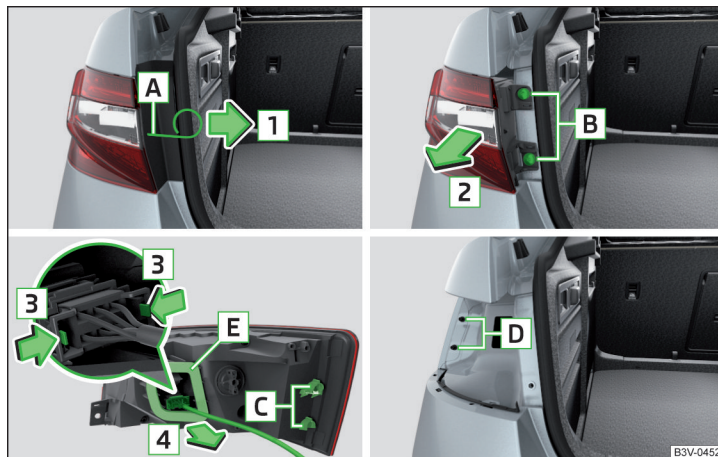

Fig. 364 Removing light / pulling out connector
- Insert the clamps for removing the full wheel trims into opening **A** » Fig. 364.
- › Slide the plug in the opposite direction of the arrow **4** » Fig. 364 into the light. The locks on the plug must be inserted securely.
- Ensure that when re-inserting the light the wiring harness between the body and the light is not jammed and the seal **E** » Fig. 364 is correctly inserted - Otherwise there is a risk of water ingress and damage to the electrical installation.